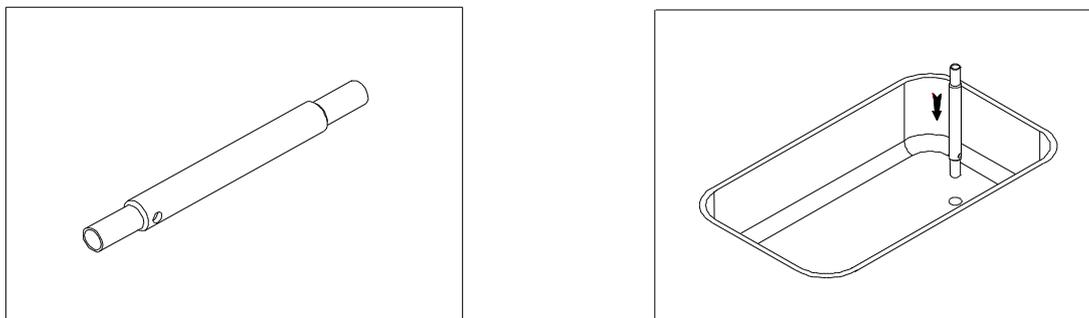

Figure 4-5
G. Install the pump into the hopper (Figure 4-5).